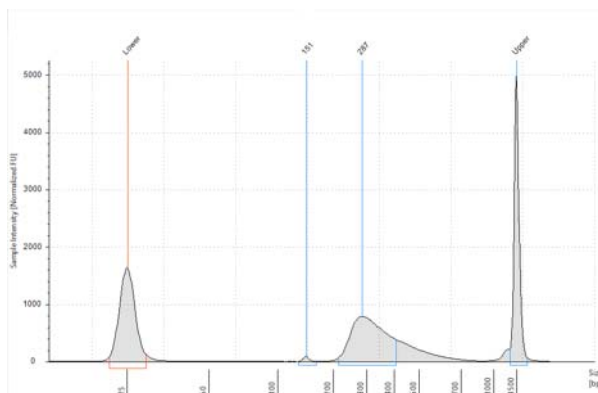

Figure 2 Final mRNA library analyzed using a D1000 ScreenTape.
- 3 Verify that the electropherogram shows the expected DNA fragment size peak position (see Table 25 for guidelines). A sample TapeStation system electropherogram is shown in Figure 2.